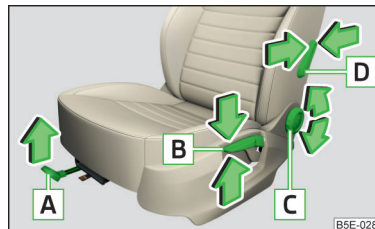

Fig. 64
Control elements at the seat » Fig. 64
- Pull the lever **A** » Fig. 64 in the direction of the arrow and push the seat in the required direction.
- Again push or pull the lever **B** » Fig. 64 in the direction of one of the arrows.
➤ Push the lever **C** » Fig. 64 in the direction of one of the arrows.
➤ Push the lever **D** » Fig. 64 in the direction of one of the arrow.